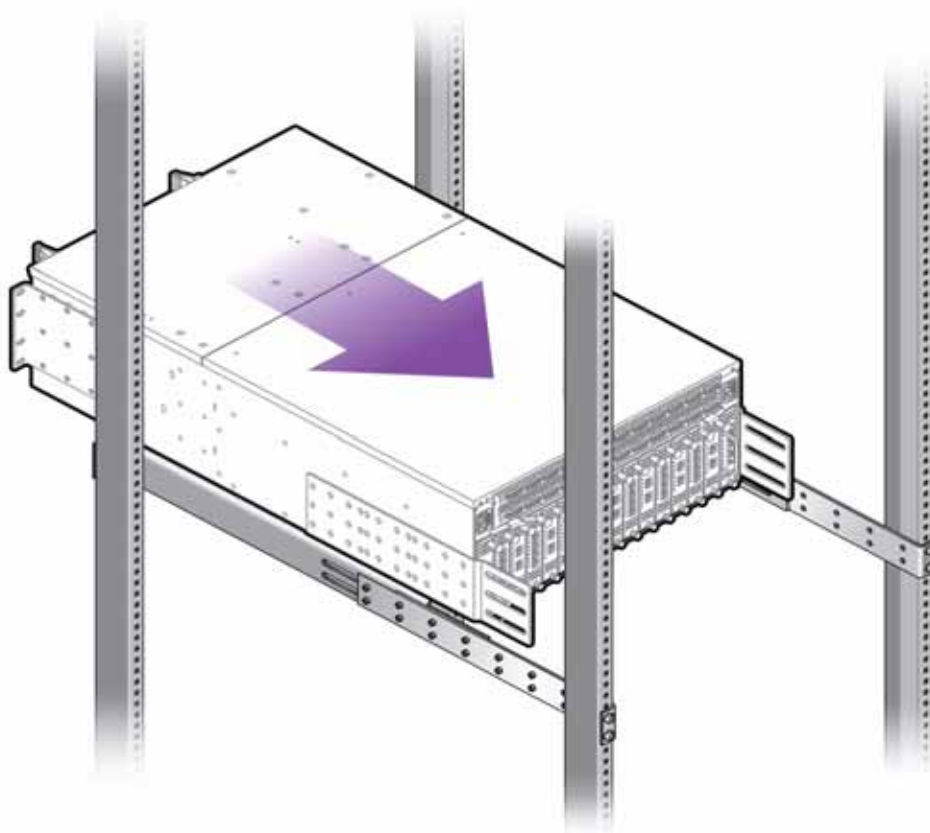

Figure 4 Inserting the Fabric Director into the Equipment Rack
- Step 15** Begin sliding the chassis into the rack on the horizontal surface created by the rails. Figure 4 shows inserting the chassis into the rack.
Figure 4 shows installing the Fabric Director from the rear of the rack. Whether you install back-to-front, as shown, or front-to-back is irrelevant as long as the chassis is inserted so that it is supported on the horizontal surface of the rails. The horizontal surface is required to support the Fabric Director as it slides into the rack.